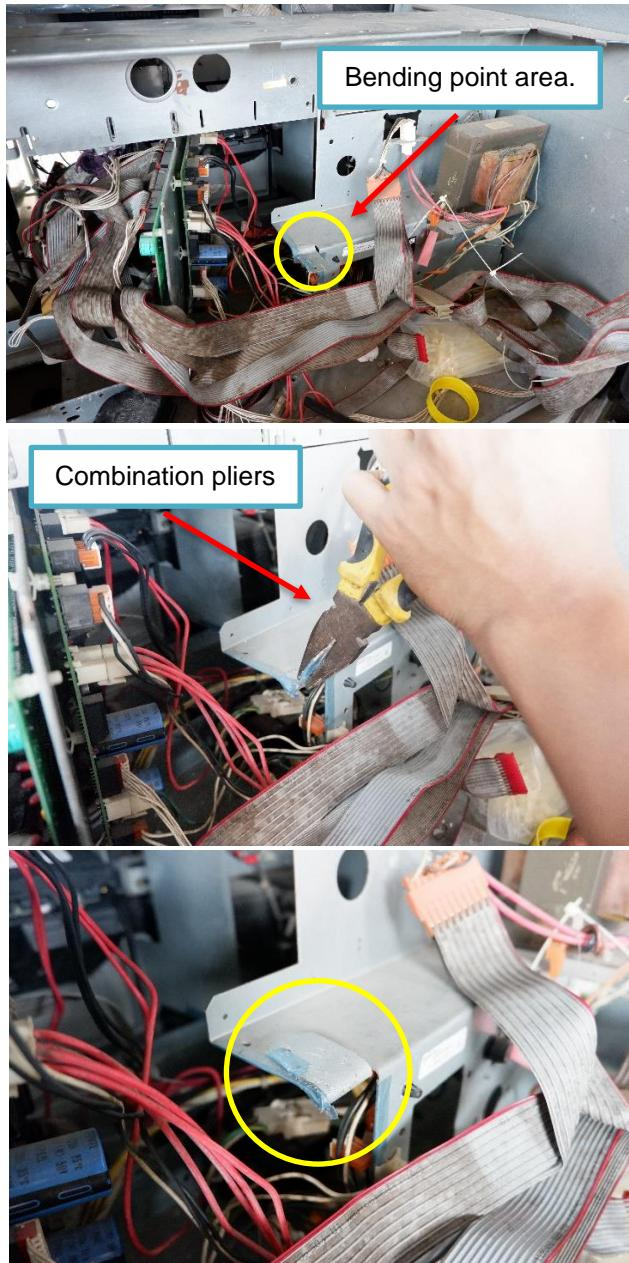

Fig 4.19 – Bend the interfere point by using the combination pliers.
16. Part of an internal bracket in the dispenser on B side (fig 2.2 g) needs to be modify by bending the part to the top side. The purpose of this process is to provide panel door enough clearance when closing. (Fig 4.19)